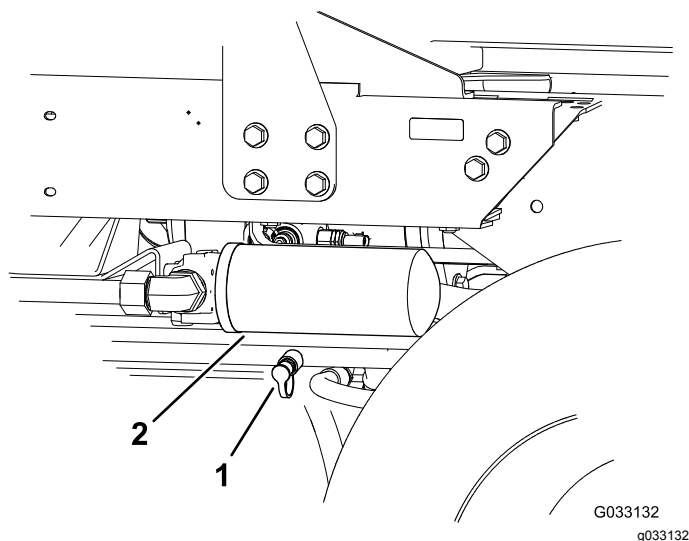

Figure 62
2. Connect a hydraulic hose between the diagnostic fitting installed in the rear traction manifold and the reverse traction pressure test port (Figure 62).